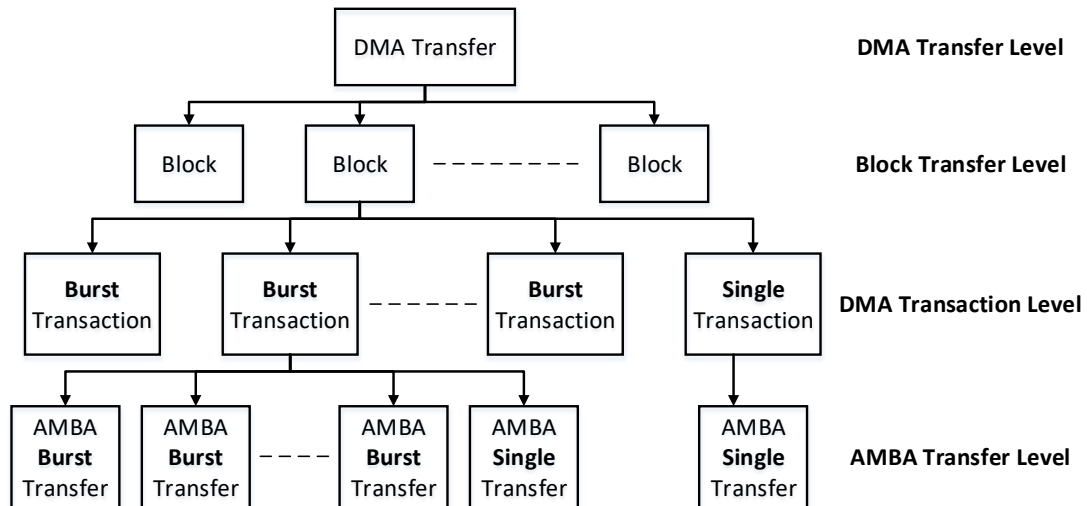

Figure 12-1 DMA transfer hierarchy for non-memory peripherals
- **Transport Hierarchy** Figure 12-1 shows the hierarchy between DMA transmissions, block transmissions, transactions (single or burst), and AHB transmissions (single or burst) for non-memory peripherals